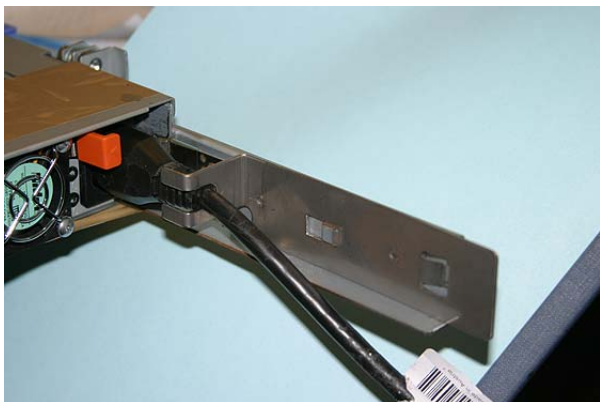

Figure 67. The SAN Volume Controller 2145-8F4 with cable retention bracket attached
3. Position the cable retention bracket against the support rail and attach the bracket onto the slot in the rear of the rail. Figure 67 provides a view of the cable retention bracket that is attached to the SAN Volume Controller 2145-8F4.